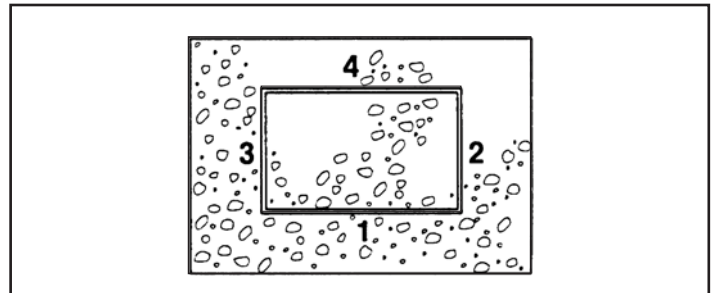

Figure 4. Planning Cuts
2. Make your cuts in the order shown in Figure 4, starting with cut 1 (base horizontal cut) and proceeding with the remaining three cuts.